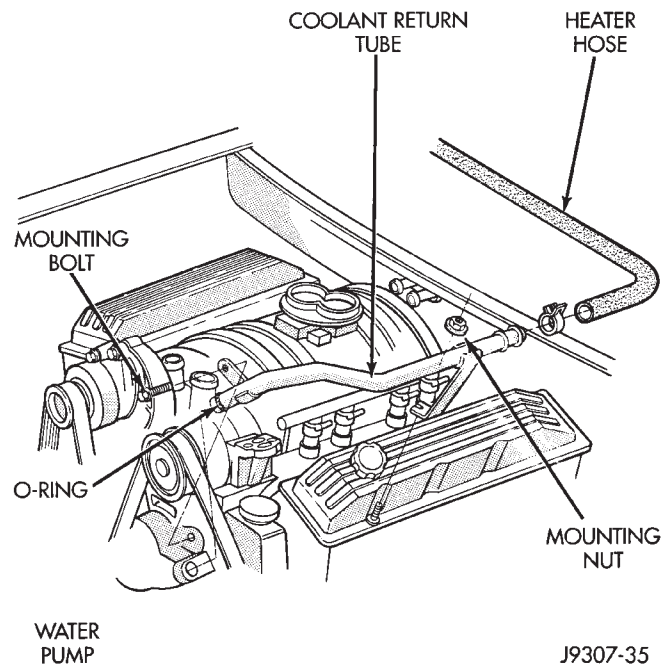
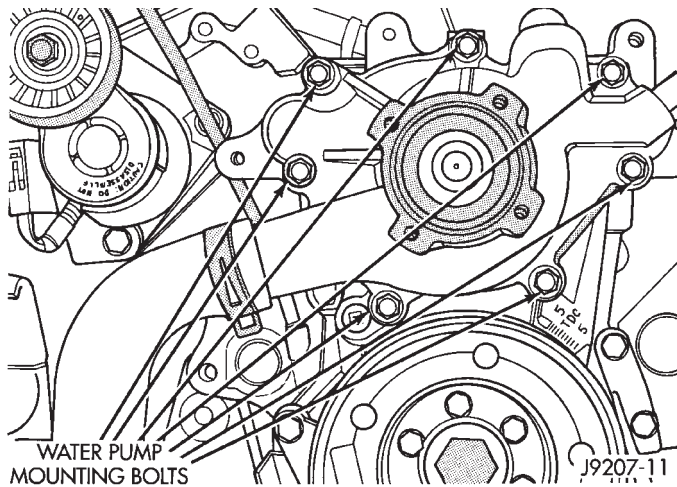

Fig. 33 Coolant Return Tube—5.2L/5.9L Engines
Fig. 34 Water Pump Bolts—5.2L/5.9L Engines—Typical
(11) Remove lower radiator hose clamp and remove lower hose at water pump.
(12) Remove heater hose clamp (Fig. 33) and heater hose from heater hose coolant return tube.
(13) Loosen heater hose coolant return tube mounting bolt and nut (Fig. 33) and remove tube from water pump. Discard the old tube o-ring.
(14) Remove seven water pump mounting bolts (Fig. 34).
- (1) Clean gasket mating surfaces.
- (2) Using a new gasket, install water pump to engine as follows: Guide water pump nipple into bypass hose as pump is being installed. Install water pump bolts (Fig. 34). Tighten water pump mounting bolts to 40 N·m (30 ft. lbs.) torque.
- (3) Position bypass hose clamp to bypass hose.
- (4) Spin water pump to be sure that pump impeller does not rub against timing chain case/cover.
- (5) Install a new o-ring to the heater hose coolant return tube (Fig. 33). Coat the new o-ring with anti-freeze before installation.
- (6) Install coolant return tube to engine (Fig. 33). Be sure the slot in tube bracket is bottomed to the mounting bolt. This will properly position return tube.
- (7) Connect radiator lower hose to water pump.
- (8) Connect heater hose and hose clamp to coolant return tube.